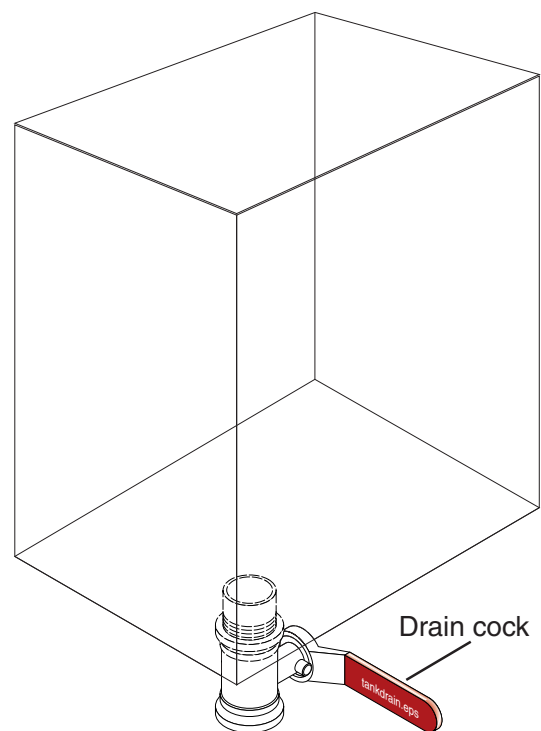

Figure 32
5. Bleed the water out of the bottom of the hydraulic oil reservoir by opening the drain cock or faucet located at the bottom of the reservoir (Figure 32). Place a drain pan under the outlet hose, open the valve, and watch the liquid as it leaves the hose. When the liquid changes from water to oil, close the valve. Because of condensation, which is aggravated by large heating-cooling cycles, it is normal that there will be a small amount of water in the tank every day, but it should settle to the bottom of the tank overnight. The water that is drained should be clear, and the oil that follows it should also be clean, not milky.